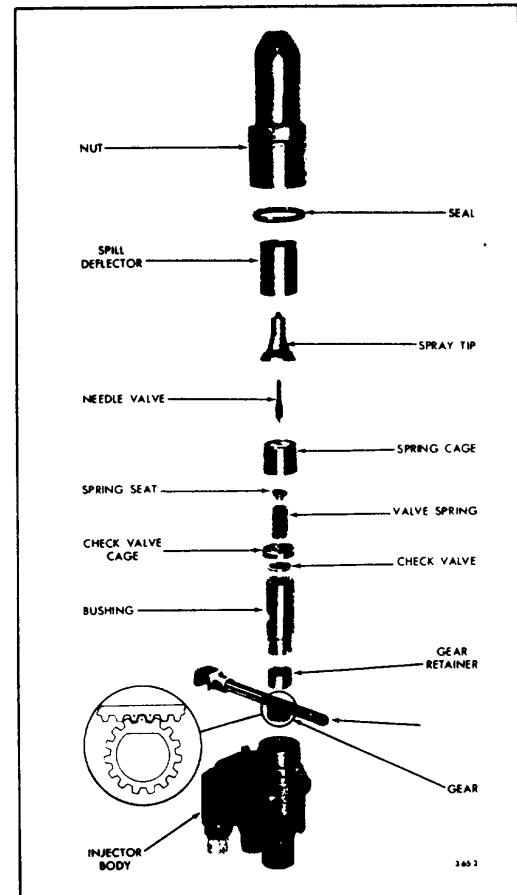

Fig. 36. - Injector Rack, Gear, Spray Tip and Valve Assembly Details and Relative Location of Parts
6. Refer to Fig. 36. and remove the spill deflector. Then lift the bushing straight out of the injector body.
Refer to Fig. 36. and note the drill spot marks on the control rack and gear. Then proceed as follows:
2. Place the gear in the injector body so that the marked tooth is engaged between the two marked teeth on the rack (Fig. 36).
Refer to Fig. 36. and assemble the parts as follows: